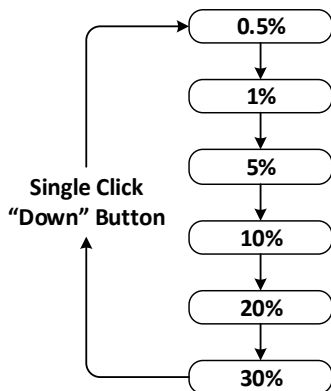

Figure 3-18: Switch Sorting Tolerance Range by Single Clicking the "Down" Button
- Single click the "Down" button to switch sorting tolerance range as Figure 3-18 shows.